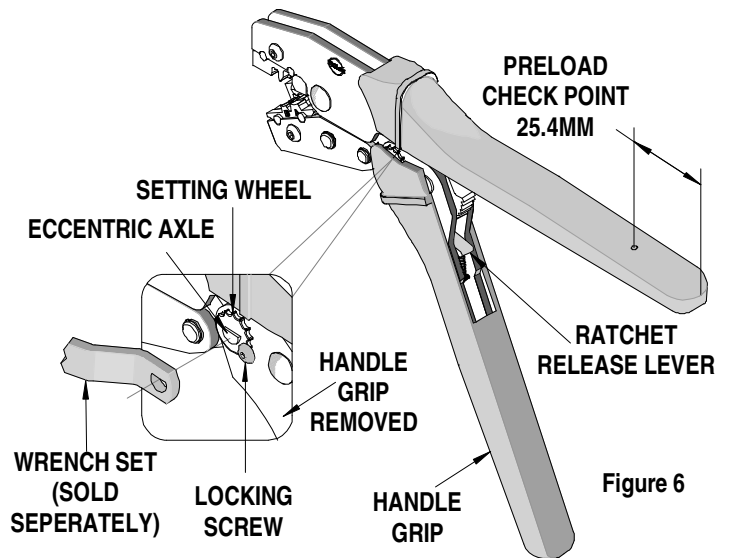

Figure 6
3. Make certain all pins; pivot points and bearing surfaces are protected with a thin coat of high quality machine oil. Do not oil excessively. The tool was engineered for durability but like any fine piece of equipment it needs cleaning and lubrication for a maximum service life of trouble free crimping. Light oil such as 30 weight automotive oil used at the oil points, every 5,000 crimps or 3 months, shown in Figure 6 will significantly enhance the tool life.
Should this tool ever become stuck or jammed in a partially closed position, **Do Not force the handles open or closed**. The tool will open easily by pressing the ratchet release lever. See Figure 6.
(See Figure 6)